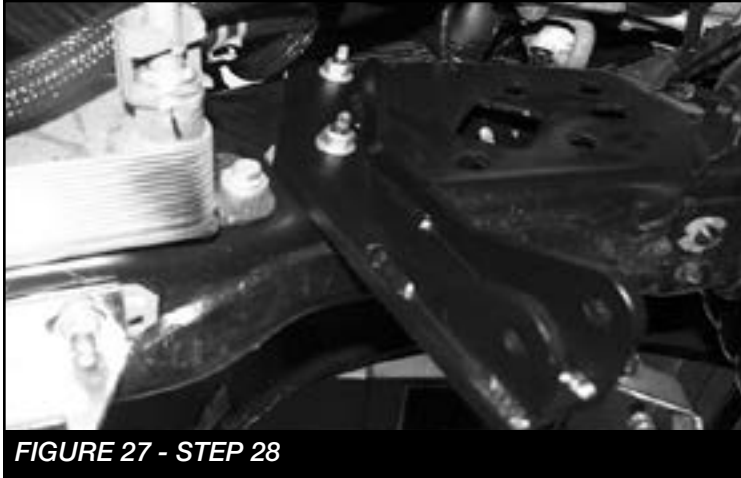

FIGURE 27 - STEP 28
28. Install FT30583BK (steering stabilizer drop bracket) in the factory location using the factory hardware. Torque to 127 ft-lbs. Reattach the factory stabilizer to the frame bracket using the factory hardware. **SEE FIGURE 27**